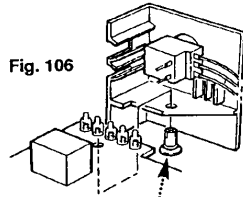

Fig. 106
6. Carefully withdraw the centre pin from the retaining rivet the thermostat control panel (Fig. 106 & 107). (On reassembling ensure the control panel is located over the